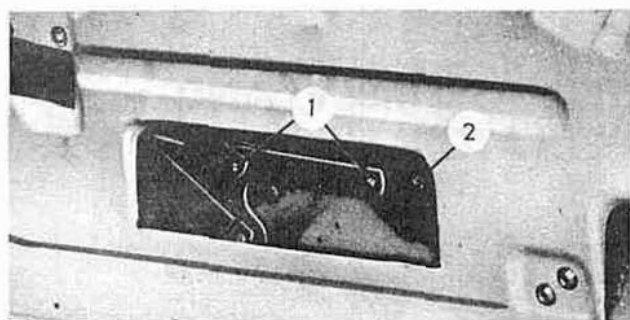

FIG. 173
stop. Roll the window down, remove clips and washers from the regulator studs (1, Fig. 173), and disengage the regulator arm from the lift channel. Remove the door window frame stop bolt (2). Remove both the inner and outer door window weather seal strips (see Fig. 174). Lift the glass manually and remove it from the door as shown in Fig. 175.